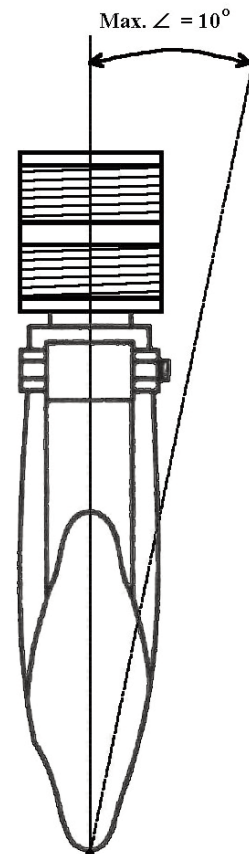

Figure 5
- ii) *Twisting* - Check for twisting of the hook (Figure 5). Discard if twisted over 10°.